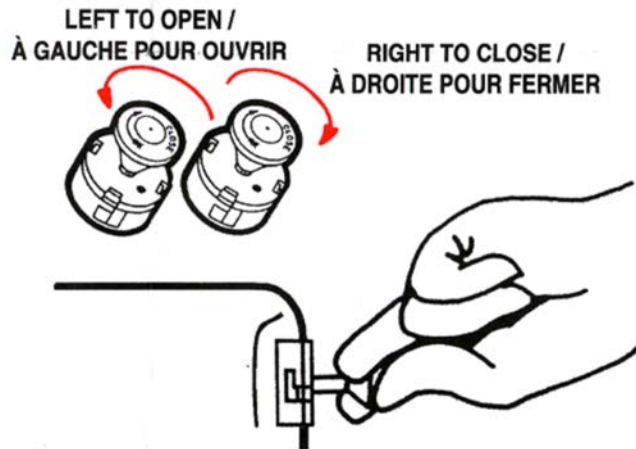

Figure 9 Pressurizing the Fuel Tank
2. Turn the pump rod two full turns counter-clock wise (as per Figure 9).
3. Place the thumb over the air vent of the pump rod handle (as per Figure 9).
5. Turn the pump rod clockwise until it is closed tight (as per Figure 9).